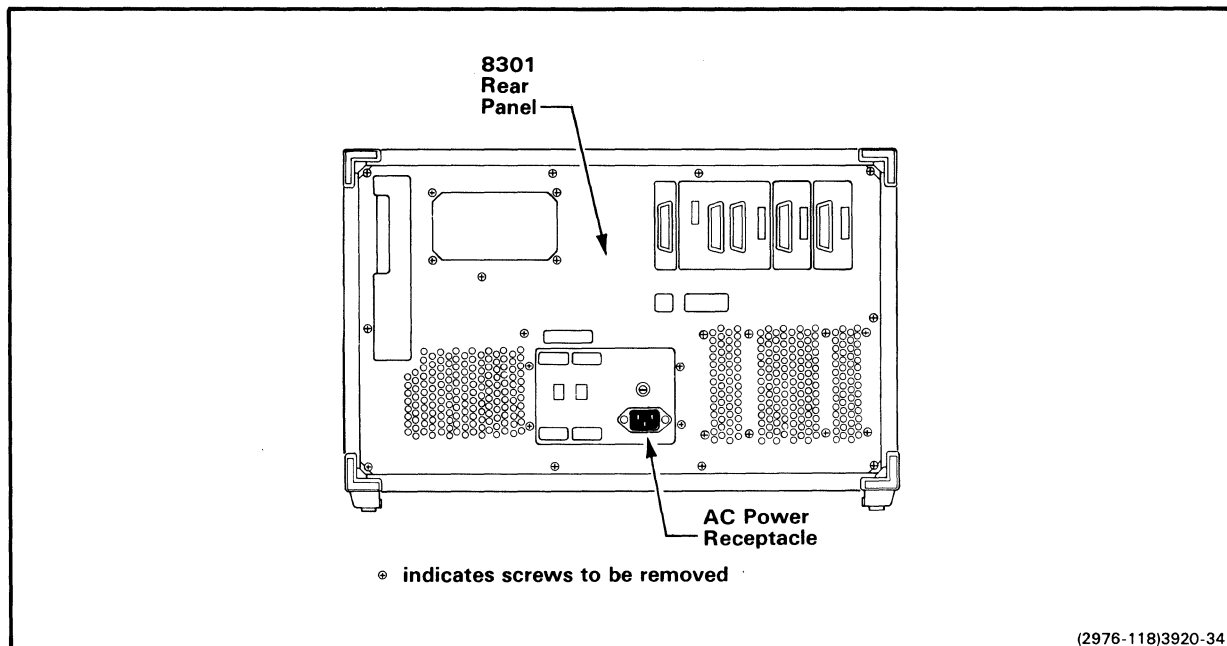

Fig. 14-9. 8540 Rear Panel.
- The 8540 rear panel must be removed. Figure 14-9 shows the screws that must be removed. Remove the screws in the rear panel. When the panel is loose, disconnect any remaining wiring, and lay the panel carefully aside.
11. The ac power cord receptacle is mounted on the bracket shown in Fig. 14-9. The bracket is held to the chassis by two screws along the lower edge. Remove the screws and swing the bracket aside. Avoid damaging the wiring.